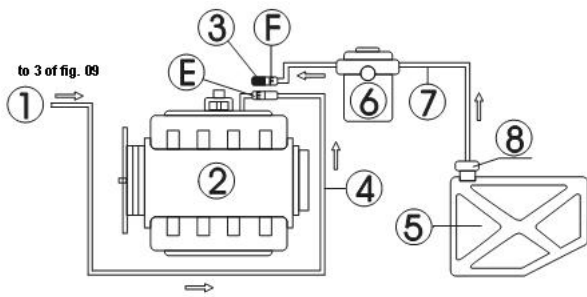

Fig.10
The hose line connection of the engine without return hose is shown as in Fig.10.
- 1) Disconnect the fuel supply hoses (E, F) of engine fuel system (wrap the connector when disconnecting the connector), and then choose a proper connector and connect it to the E end. Reconnect the fuel outlet hose of the unit well and make the fuel return hose hanging. See Fig.10.
- 2) Stop the other end of the disconnected end (F) with a proper stopper, (use when the fuel pump has the fuel return pump function only) or remove the fuse of fuel pump or disconnect